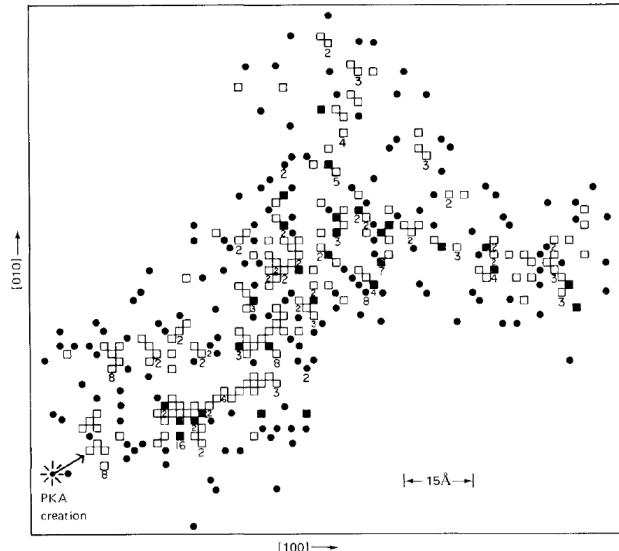

Fig. 17.27 Displacement spike due to a 20-keV PKA in iron projected onto the (001) plane (0°K). [After J. R. Beeler, Jr., *Phys. Rev.*, **150**: 470 (1966).]
Fig. 17.28 Displacement spike [projected onto the (001) plane] due to a 20-keV PKA in iron after annealing at 800°K (6000 interstitial jumps and 60 vacancy jumps). The preannealed spike is shown in Fig. 17.27. Numbers on the diagram denote cluster sizes. Twelve interstitials have migrated outside the range of the diagram and are not shown. (After Ref. 29.)